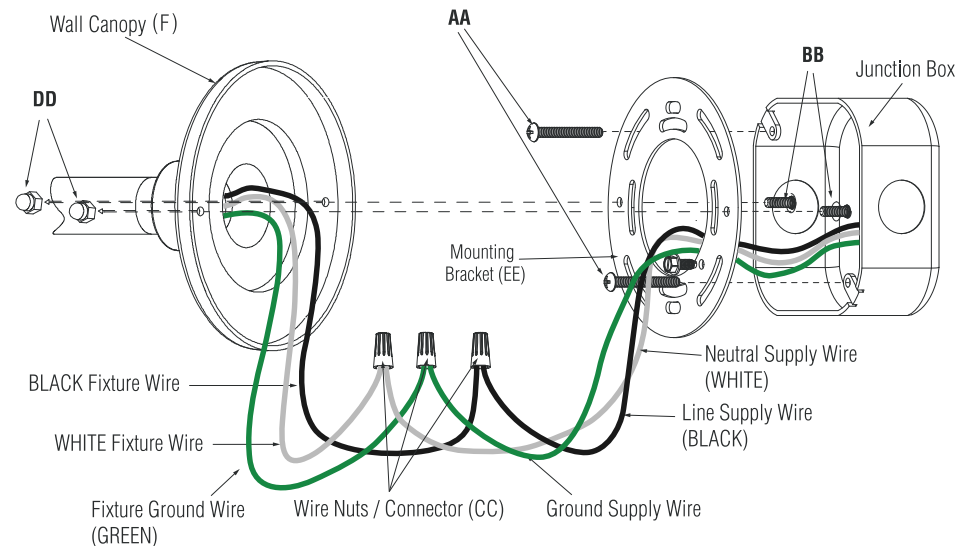

FIG. 2
Attach MOUNTING BRACKET (EE) to Junction BOX using MOUNTING SCREWS (AA). (Figure 2)
Connect wires as shown. Tuck all wiring into junction box. (Figure 2)
Place Wall Canopy over Junction Box and onto the fixture's Mounting Screws (BB). Mounting Screws should protrude enough to allow Screw Caps (DD) to hold Wall Canopy tightly against wall. (Figure 2) It is recommended to apply silicone caulk around edge of wall canopy to weatherproof.